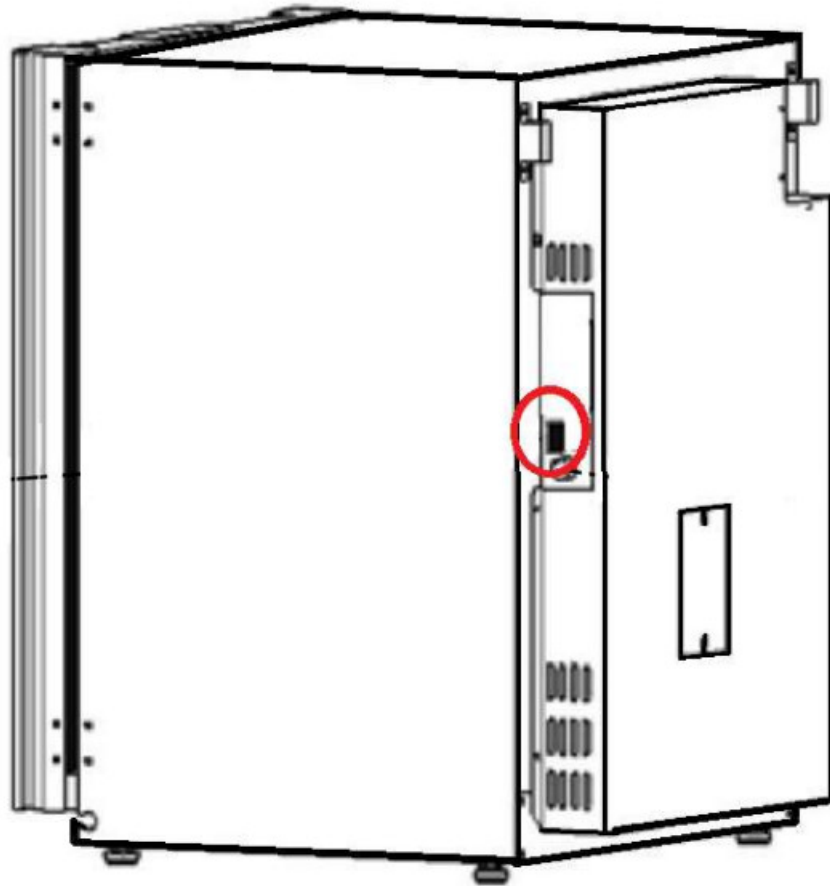

Figure 1 Remote Contact panel on the back right side of a Sanyo/PHCBI MCO-18AC incubator
4. If you have ordered multiple Element-B's, ensure the Element-B being used is configured as Normally Closed (NC). This can be verified by checking the device label, the dashboard under 'Machine Model', or the packing list sent with your shipment.
- a. Element-B's can either be configured as Normally Closed (NC) or Normally Open (NO) by our team here at Elemental Machines. Different assets require different configurations. If you have ordered Element-B's for multiple assets, you may have a mix and need to be aware of attaching the correctly configured device to the correct asset.
6. Locate the Remote Alarm panel on the back of the incubator as shown in Figure 1.